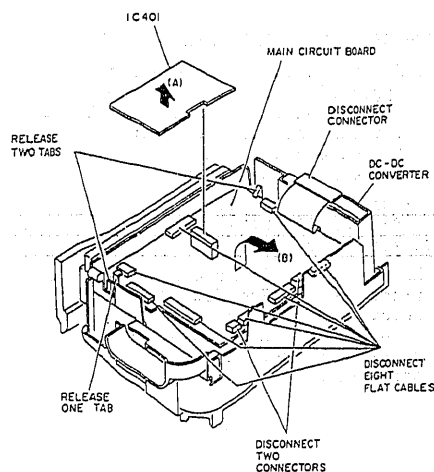
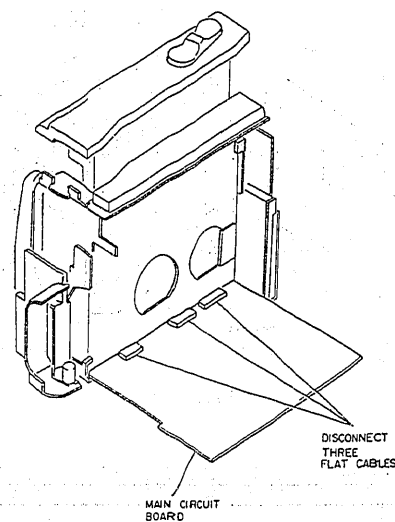

Fig. 2-9
Fig. 2-10
- 1) Release one (1) tab and remove the audio IC (IC401) in the direction of arrow (A). (The IC401 and main circuit board are connected via board-in type connector.) (See Fig. 2-9)
- 3) Disconnect eight (8) flat cables (CN211, CN613, CN902, CN905, CN907, CN908, CN909, CN910) on the main circuit board.
- 4) Disconnect two (2) connectors (CN212, CN904) on the main circuit board.
- 5) Release two (2) tabs and open the main circuit board in the direction of arrow (B).
- 6) Disconnect three (3) flat cables (CN612, CN611, CN905) on the main circuit board. (See Fig. 2-10)
- 1) Remove the IC401. (See Fig. 2-9)